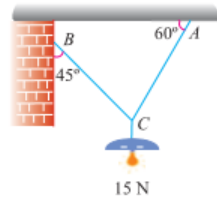

Fig. 5.3.
**Example 5.1.** An electric light fixture weighting 15 N hangs from a point C, by two strings AC and BC. The string AC is inclined at 60° to the horizontal and BC at 45° to the horizontal as shown in Fig. 5.3